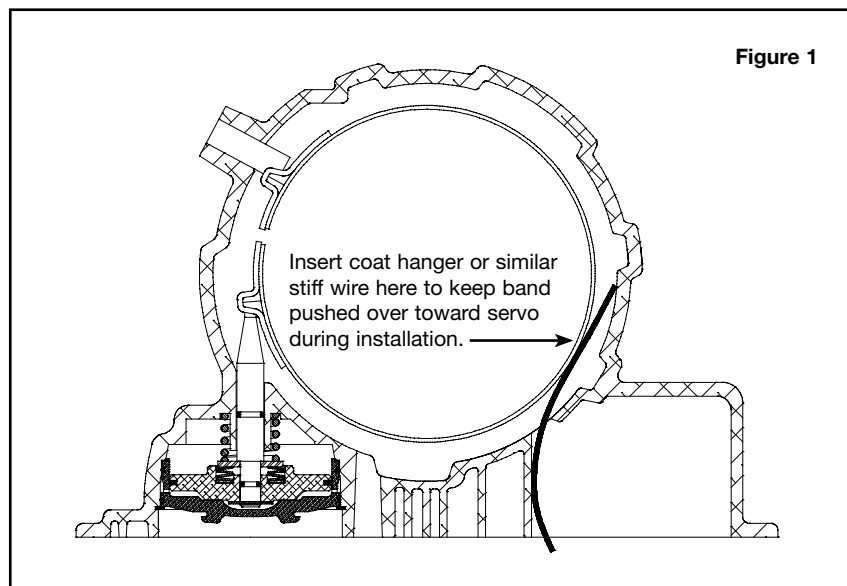

Figure 1
- When the servo is removed, the band end will move out of position. The servo cannot be reinstalled until the band is repositioned. **Figure 1** illustrates how to use a piece of coat hanger or similar stiff wire to keep the band pushed over toward the servo.
NOTE: Ensure the pin properly engages the band by positioning the band (Figure 1).
- NOTE:** Ensure the pin properly engages the band by positioning the band (Figure 1).